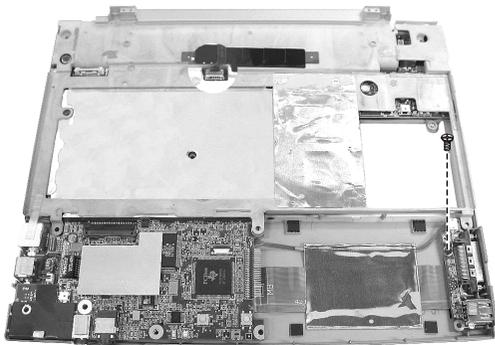

Figure 2-19 Remove the transfer board
2. Remove one screw fastening the CD-ROM transfer board. (See Figure 2-19)